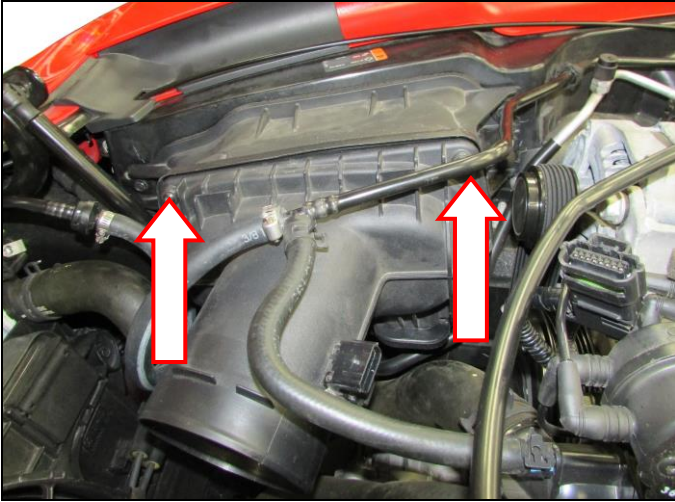

Figure 3
6. Loosen both (Torx 25) screws on the factory plastic housing section and remove that half, and the factory air filter (**Figure 3**).